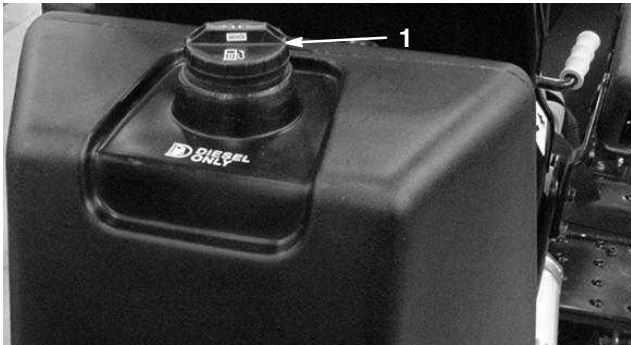

Figure 20
1. Clean the area around the fuel tank cap (Fig. 20).